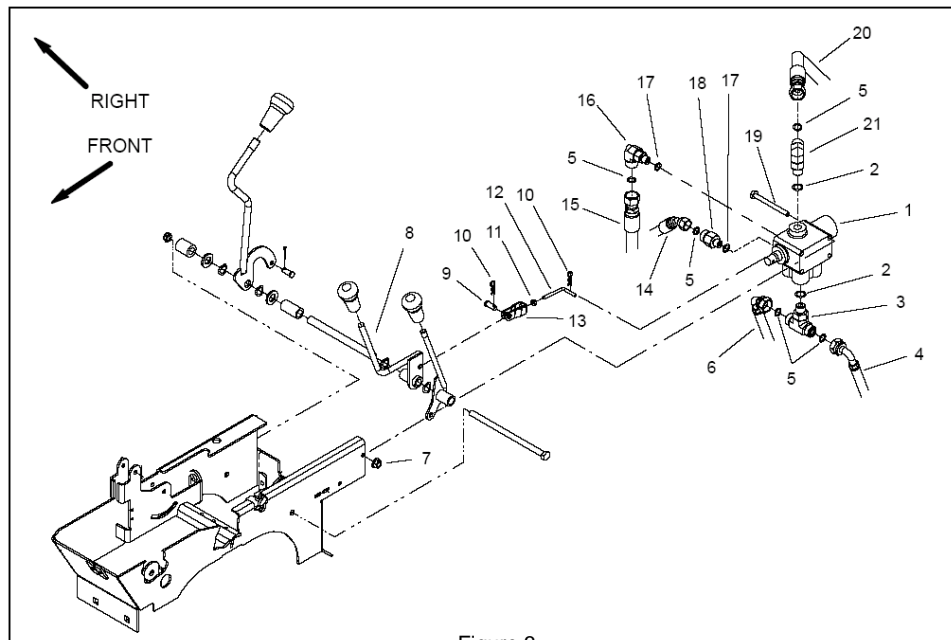

Figure 3
11. Remove screws that hold lift valve on center console to gain access to mounting screws of center console. See figure 3.